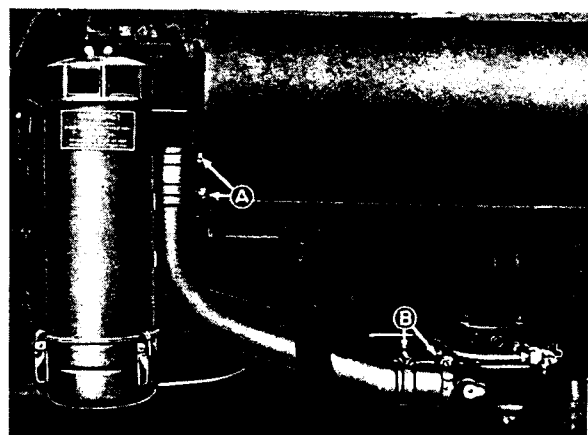
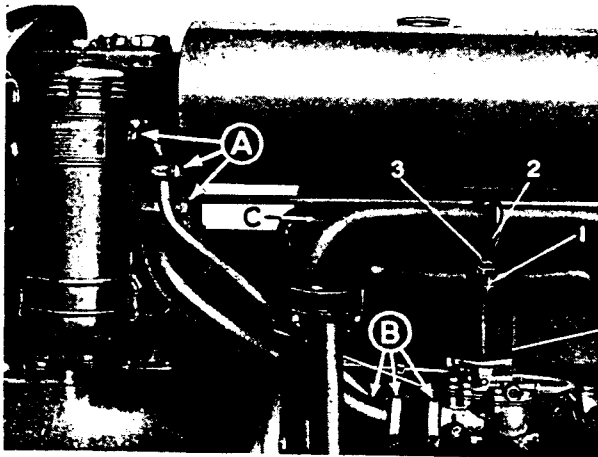
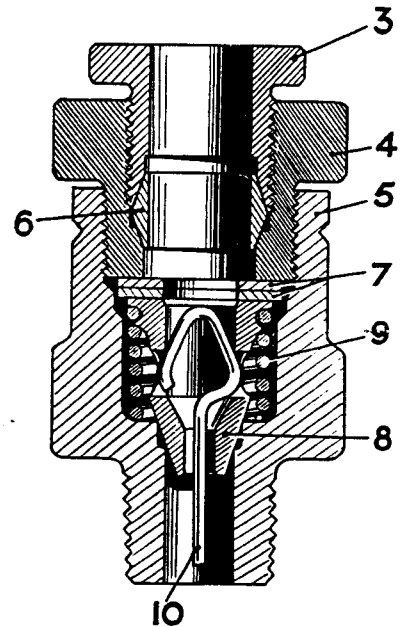

FIG. 7
FIG. 9
FIG. 10
For illustration of air cleaner fitted to tractors type TE-20 see Fig. 7, or to all other tractors see Fig. 9.
6. Ensure that the hose connections A and B, Figs. 7 and 9, on the air pipe leading from the cleaner to the carburetter (also, in the case of all tractors except type TE-20, from the cleaner to the crankcase) are air tight and the hoses not cracked or swollen.
**Note :** Tractors except type TE-20—see Fig. 9. The air cleaner has a second, smaller, outlet connected by a rubber hose to a pipe leading through an elbow to the crankcase.
**Air Bleed to Induction Manifold — Engine Ventilation. Except Tractors type TE-20. Figs. 9 and 10.**
An air breather valve assembly (1), Fig. 9, is fitted to the induction manifold. Through this valve is induced a bleed of warm oil-saturated air, from the chamber enclosed by the rocker cover (C), assisting carburation and providing upper cylinder lubrication. The consequent depression in the rocker cover creates a flow of air through the push rod passages from the crankcase, which is replaced by air from the small outlet of the cleaner. The original design of the valve provided for an automatic weakening of mixture with increasing engine speeds. A modification subsequently incorporated in production above engine serial No. S.12771E, recommended the fitting of sufficient washers (7) as illustrated in Fig. 10 to seat the valve (8), thus providing a constant air bleed irrespective of engine speed. To ensure that the valve makes a seal on its seat, a gap must be maintained between the valve body (5) and nut (4). All figures given for carburettor adjustment apply only if this modification has been carried out.
**To Remove Air Breather Valve Assembly. See Fig. 9.**
1. Unscrew union screw (3) on valve assembly and pull up air bleed tube (2).
2. Remove valve assembly (1) from housing in manifold by unscrewing.
**To Dismantle and Clean Air Breather Valve. See Fig. 10.**
1. Unscrew valve nut (4) from body (5) and remove olive (6).
2. Remove washer(s) (7), valve (8) and spring (9).